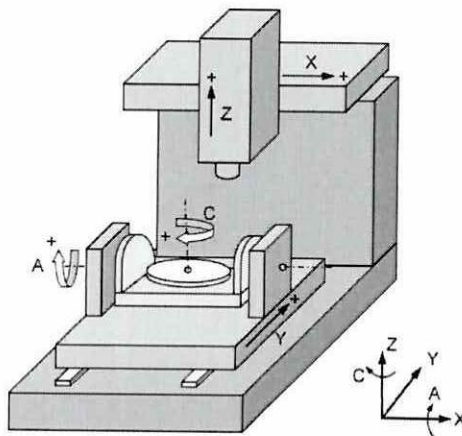

Figure Q2(a)(ii): CNC Machine Configuration
- (i) Name the type of CNC machining center in both Figure Q2(a)(i) and Figure Q2(a)(ii). (2 marks)